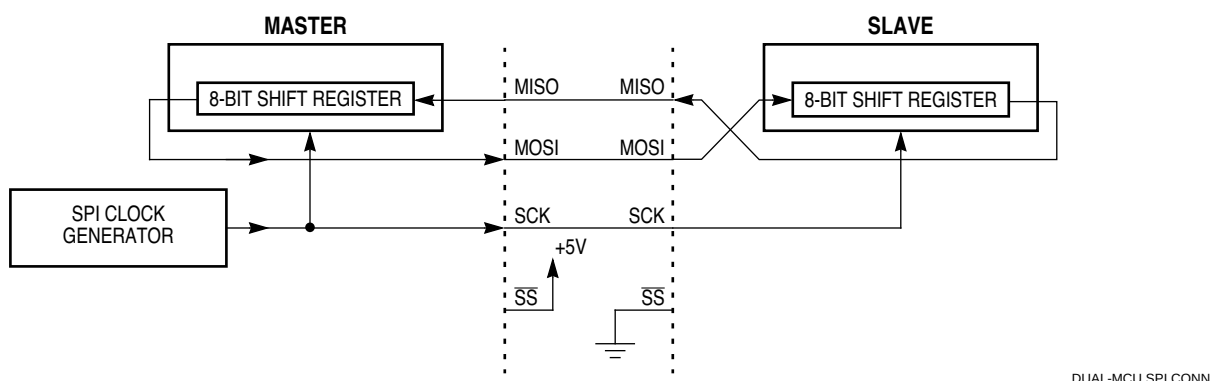

**Figure 6-3 Serial Peripheral Interface Master-Slave Interconnection**
**Figure 6-3** illustrates the MOSI, MISO, SCK, and  $\overline{SS}$  master-slave interconnections.